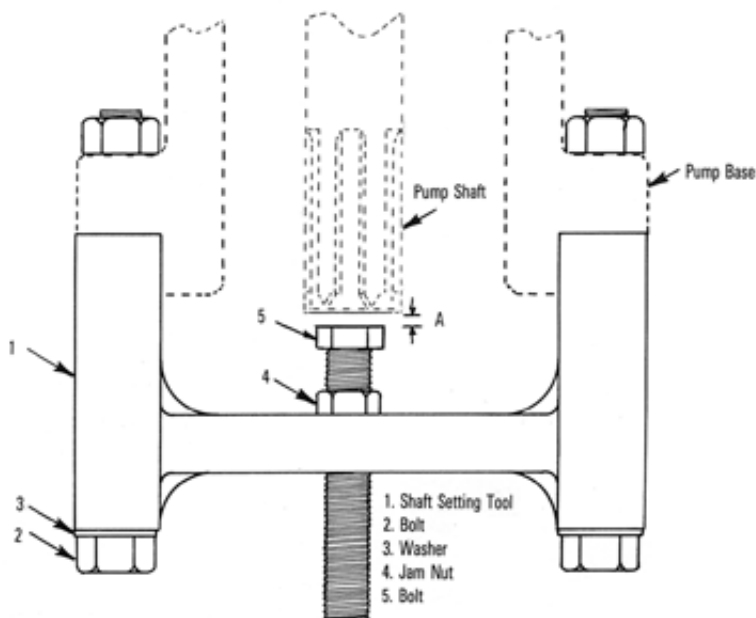

Figure 4-40: Thrust setting tool on the pump base
7. Install the thrust setting tool on the pump base as shown in Figure 4-40. When doing so, reverse the attaching bolts, not the tool. The center bolt head must remain next to the bottom of the pump shaft. Using shims, fill space A (see Figure 4-40) between the pump shaft and the bolt head with the appropriate amount of shims to fill, but not lift the shaft.